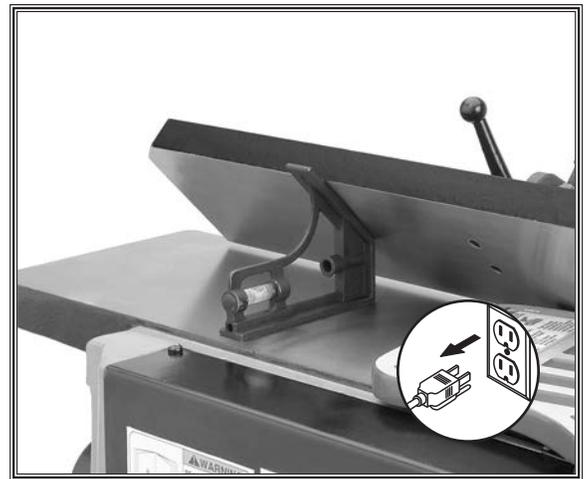

Figure 43. Checking the inward 45° stop.
4. Use a combination square to check the angle of the fence, as shown in **Figure 43**.